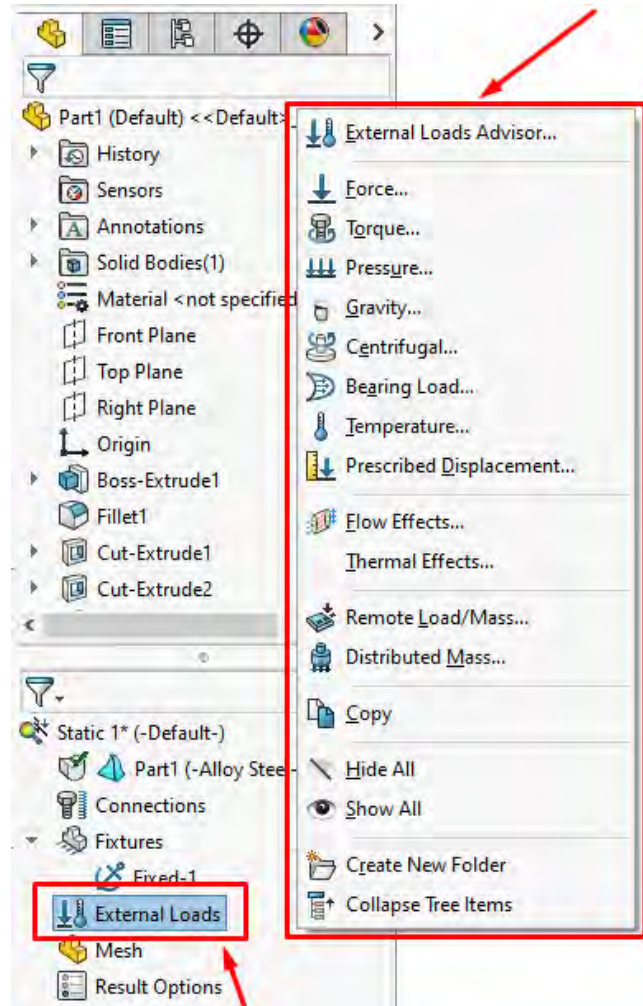

Figure 10 – Load assignment
1. In the Simulation study tree, right-click the External Loads folder. Loads) (Fig. 10).